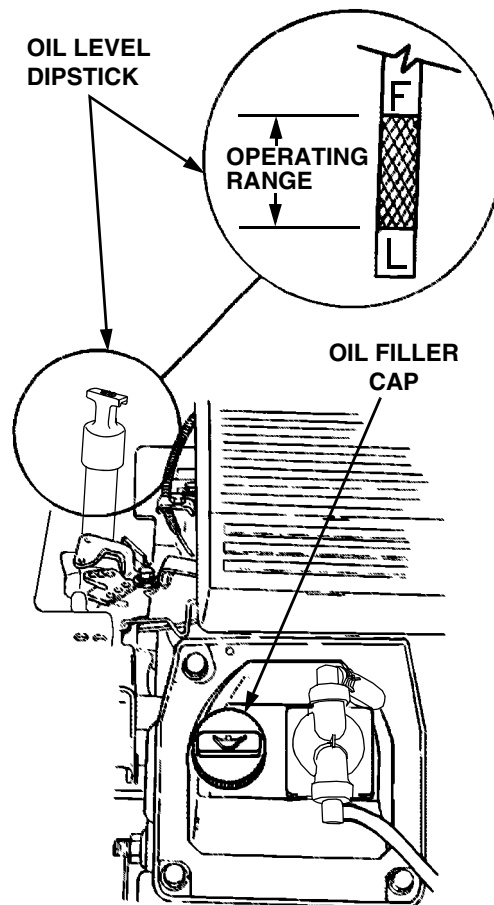

Figure 19
Regularly checking and maintaining the engine oil level in the crankcase cannot be overemphasized. Close monitoring of the oil level during the first 10 hours of operation is especially important. Referring to Figure 19, check the oil level **BEFORE EACH USE** as follows:
3. Remove the oil filler cap from the left valve cover and SLOWLY pour in oil. Fill the crankcase until the oil level reaches the "FULL" mark on the dipstick (Refer to Figure 19).
3. Remove the oil filler cap from the left valve cover and SLOWLY pour in oil. The oil capacity is approximately 4 pints. Fill the crankcase until the oil level reaches the “FULL” mark on the dipstick (Refer to Figure 19).